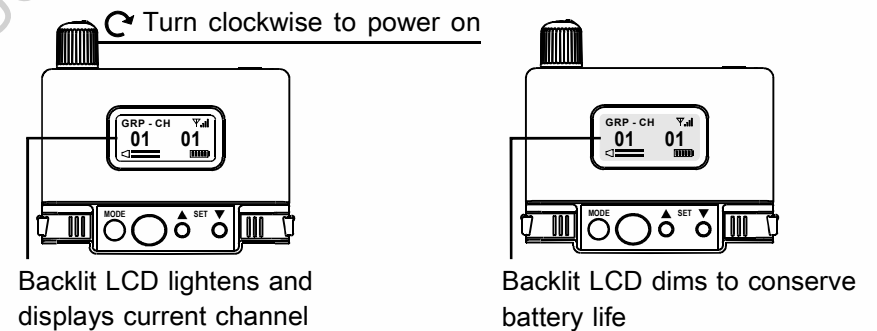

Fig. 5
- (C) Minimize the volume level before the headphone is inserted.
- (A) Turn the volume control ❷ clockwise to power on and the backlit light will be lightened. Current channel and battery status will be displayed after powered on. The backlit light will dim automatically after 5 seconds.
- (B) Slowly turn up the volume to a comfortable, safe listening sound level. Turn the volume control counterclockwise to lower the volume and turn to the end to power off. OFF...indicator will display temporarily when the device is turned off.
- (C) Caution: Device will not power on with insufficient battery power.
- (D) Power On, Fig. 5: